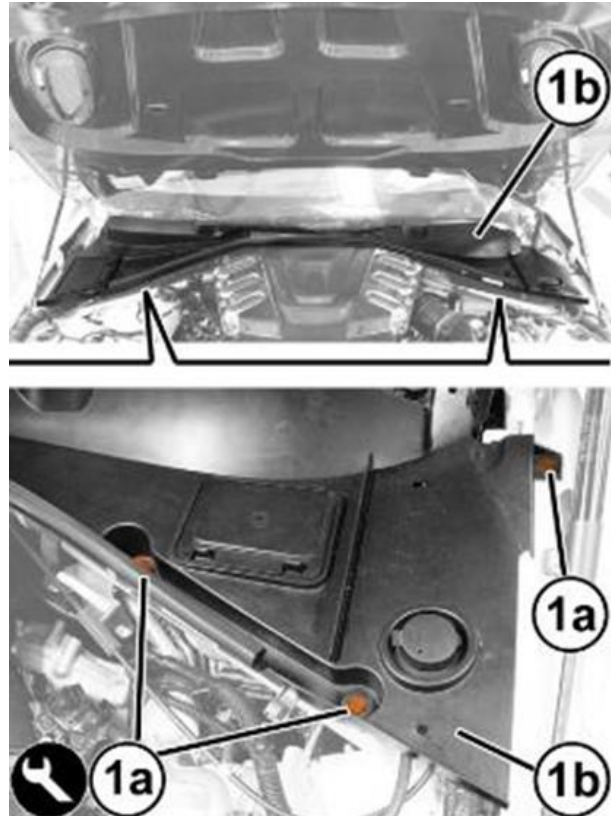

Figure 13 – Windshield Trim
25. Remove the retaining buttons (1a) from the windshield trim (1b), after releasing their central pins using the appropriate tool Trim Stick C-4829A (1823015000) (Figure 13).